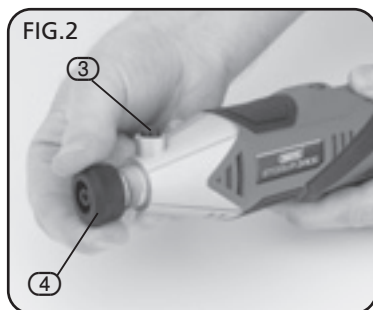

FIG.2
8.2 FITTING FLEXIBLE DRIVE SHAFT - FIGS. 2 - 3